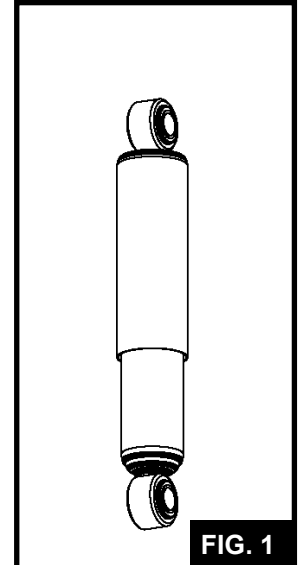

FIG. 1
5.2 Orient the shock so that the dust cover is on the top and open downwards (See FIG. 1).